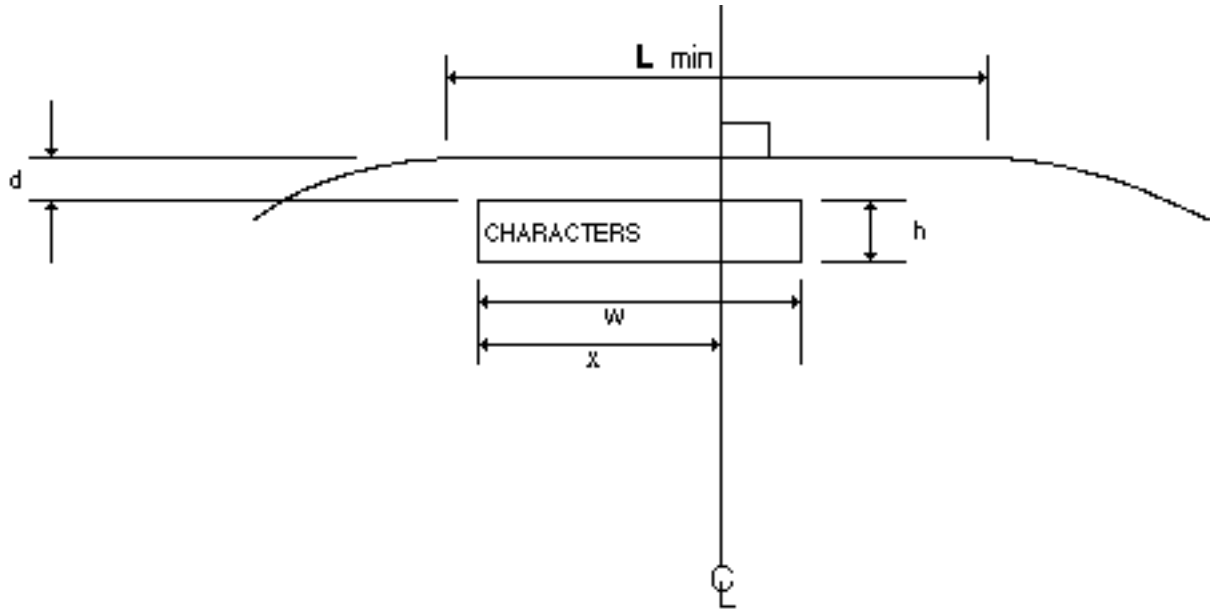

Figure 4
4.6 *code field (also known as character window)* — The rectangular window within which all characters must be contained (see Figure 4).
7.2 Code field is located as shown in Figure 4 and Table 6.
7.3 All characters must be contained within the code field along the major flat. The top of the characters is toward the side of the code field nearest the flat, see Figure 4.
7.4 *Dimensions* — See Figure 4 and Table 6.